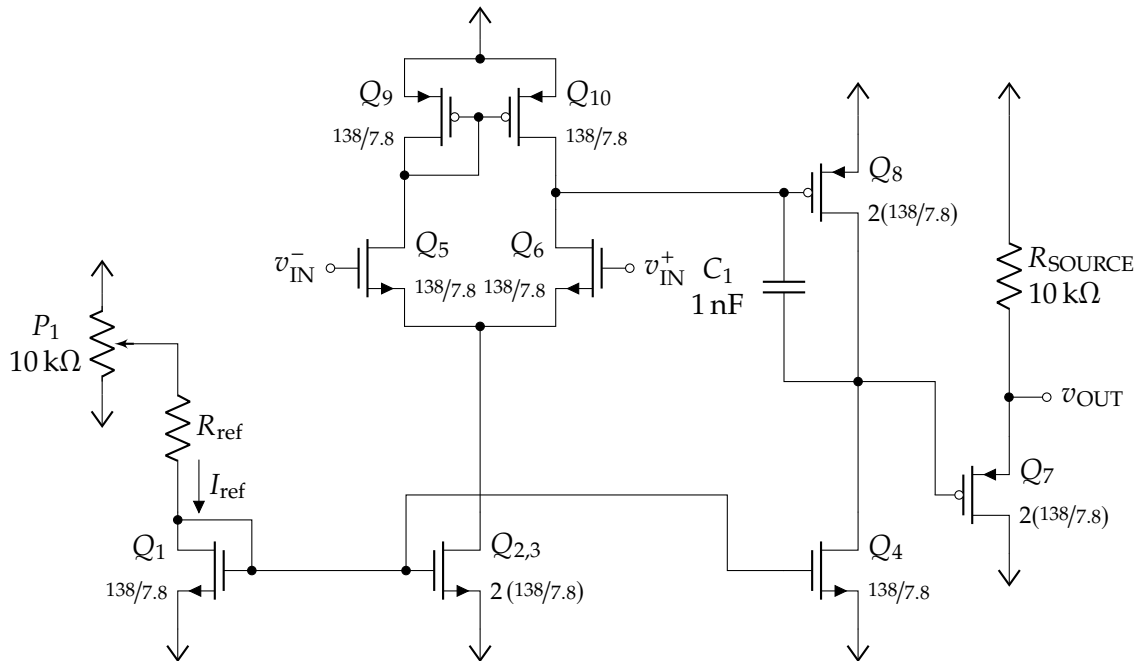

Figure 7.5: Op amp schematic.
1. Construct the op amp circuit in figure 7.5. This is the same circuit built in experiment 6. $Q_{2,3}$, Q_7 and Q_8 are still made with two transistors in parallel.